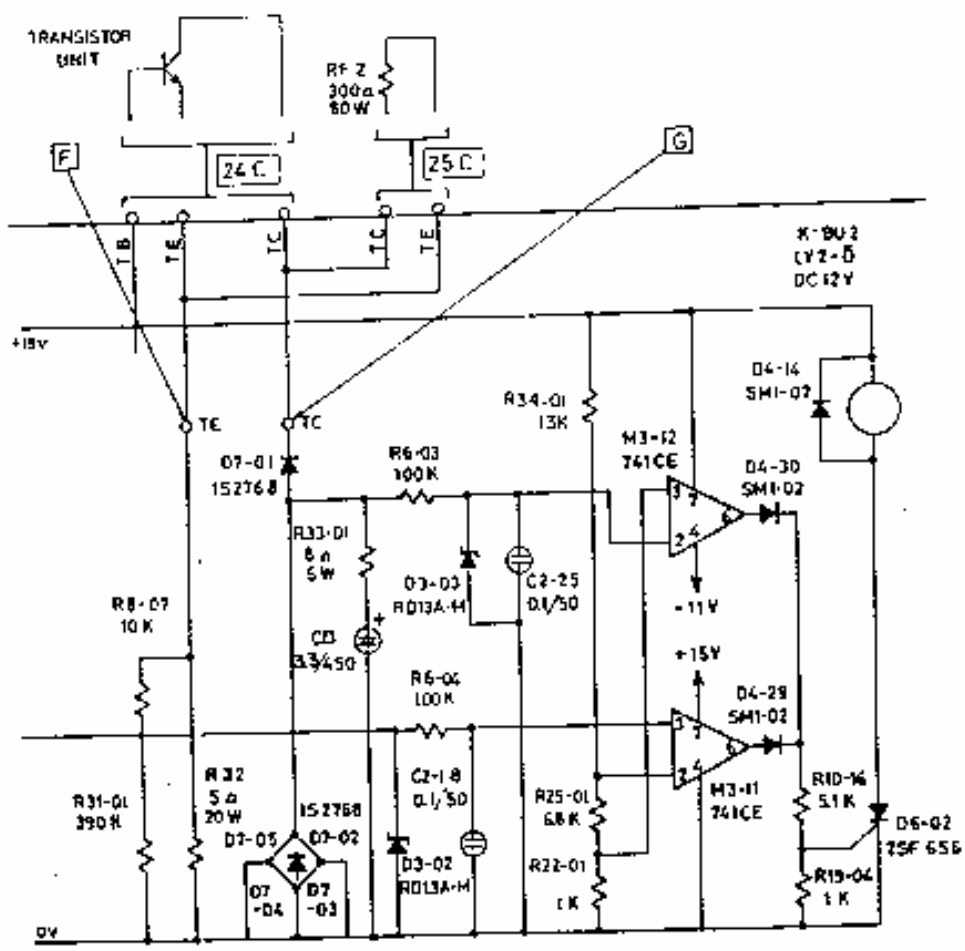

Fig. 3-5-10
- (2) Figure 3-5-10 is the connection diagram of this circuit.